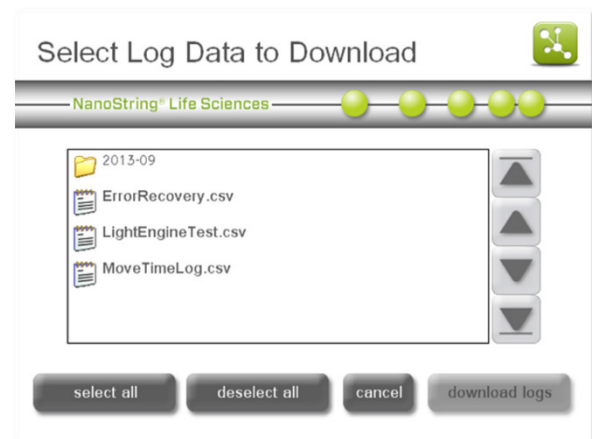

Figure 152: The 'Select Log Data to Download' screen.
3. The 'Select Log Data to Download' screen will appear (Figure 152). Insert the USB flash drive into the USB port on the right of the touchscreen.